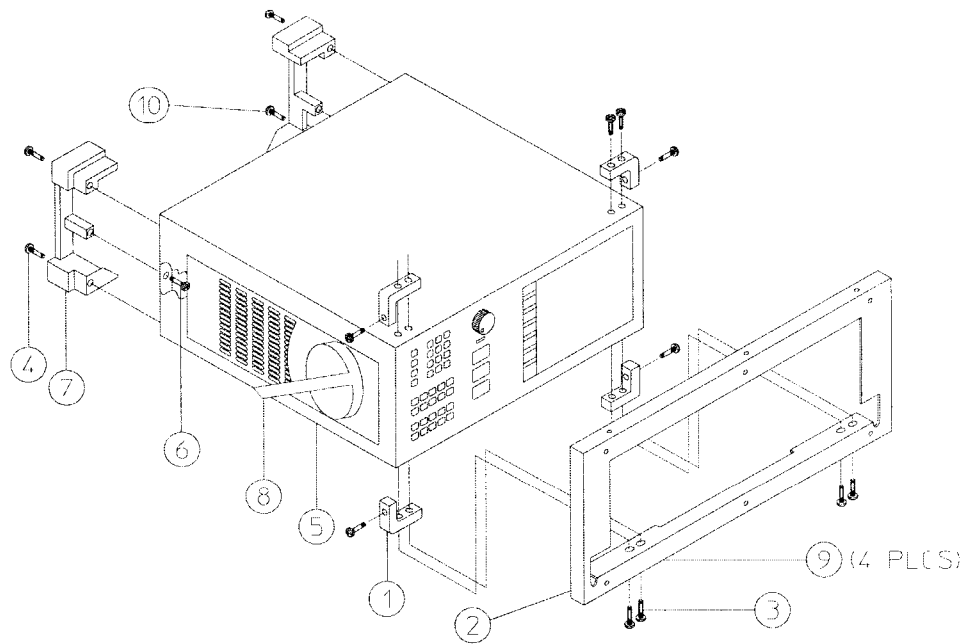

Figure 1 **Installing the Rack Kit Sub-Panel**
1. Remove the instrument's four front frame bumpers (1). See Figure 1.
2. Place the kit's sub-panel (2) face down on a clean flat surface, such as a desktop.
3. Place the instrument face down into the sub-panel, be sure to orient the instrument in relation to the sub-panel mount holes (9) as illustrated in Figure 1.
4. Attach the sub-panel to the top of the instrument's front frame using four M3 x 0.5 x 8 mm pan-head screws (3). The screws mount into the front bumper mounting holes.
5. Remove the six M3 x 0.5 x 8 mm pan-head screws (10) from the cover.
6. Use a 4 mm hex key to unscrew the four screws (4) attaching the instrument cover assembly (5) to the instrument. Pull the cover off to the rear of the instrument.
7. Remove the two screws (6) attaching the rear feet (7) to the cover assembly and remove the rear feet.